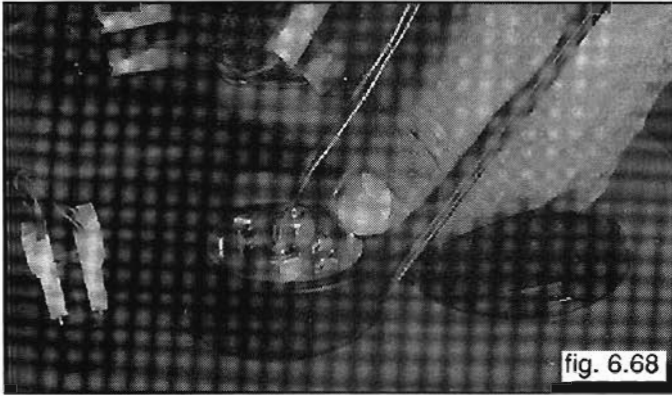

fig. 6.68
- 7 Push on the Instrument from the interior to the exterior ( see fig. 6.68 );